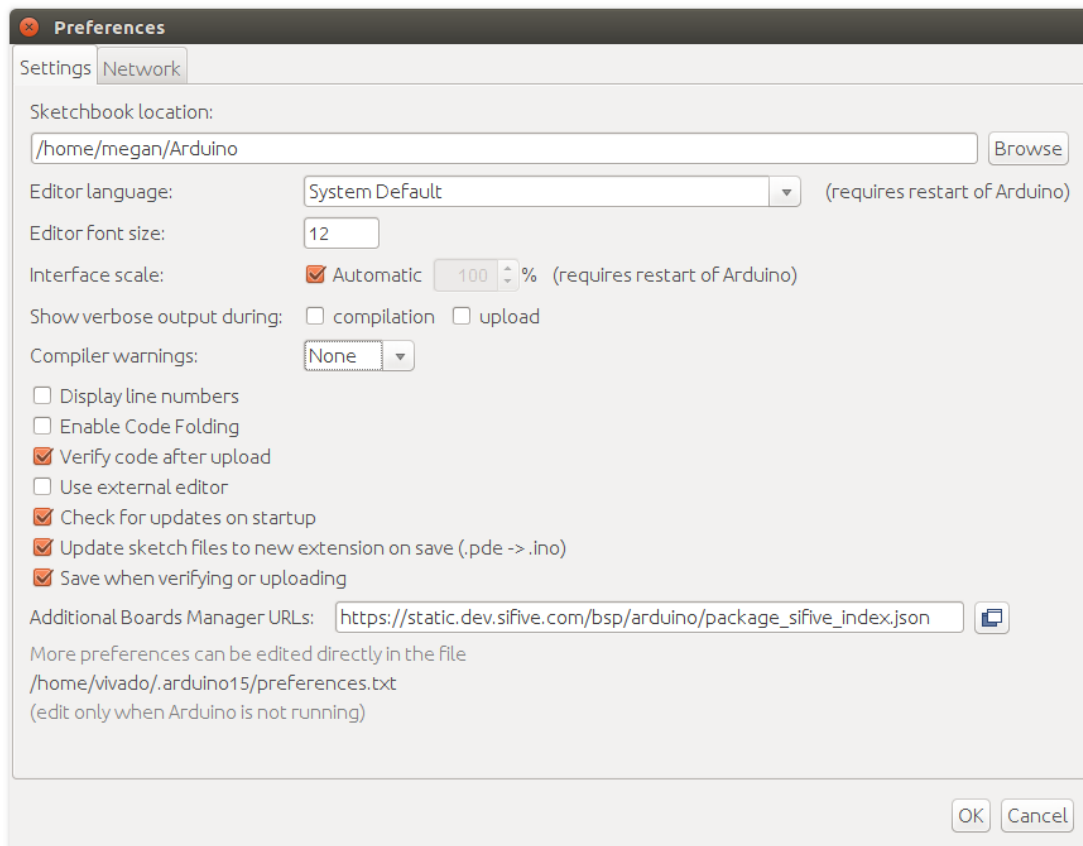

Figure 6.1: Adding the SiFive Dev Kits Board URL to your Arduino IDE
3. Navigate to File → Preferences and add the SiFive additional Board Manager URL as shown in Figure 6.1: